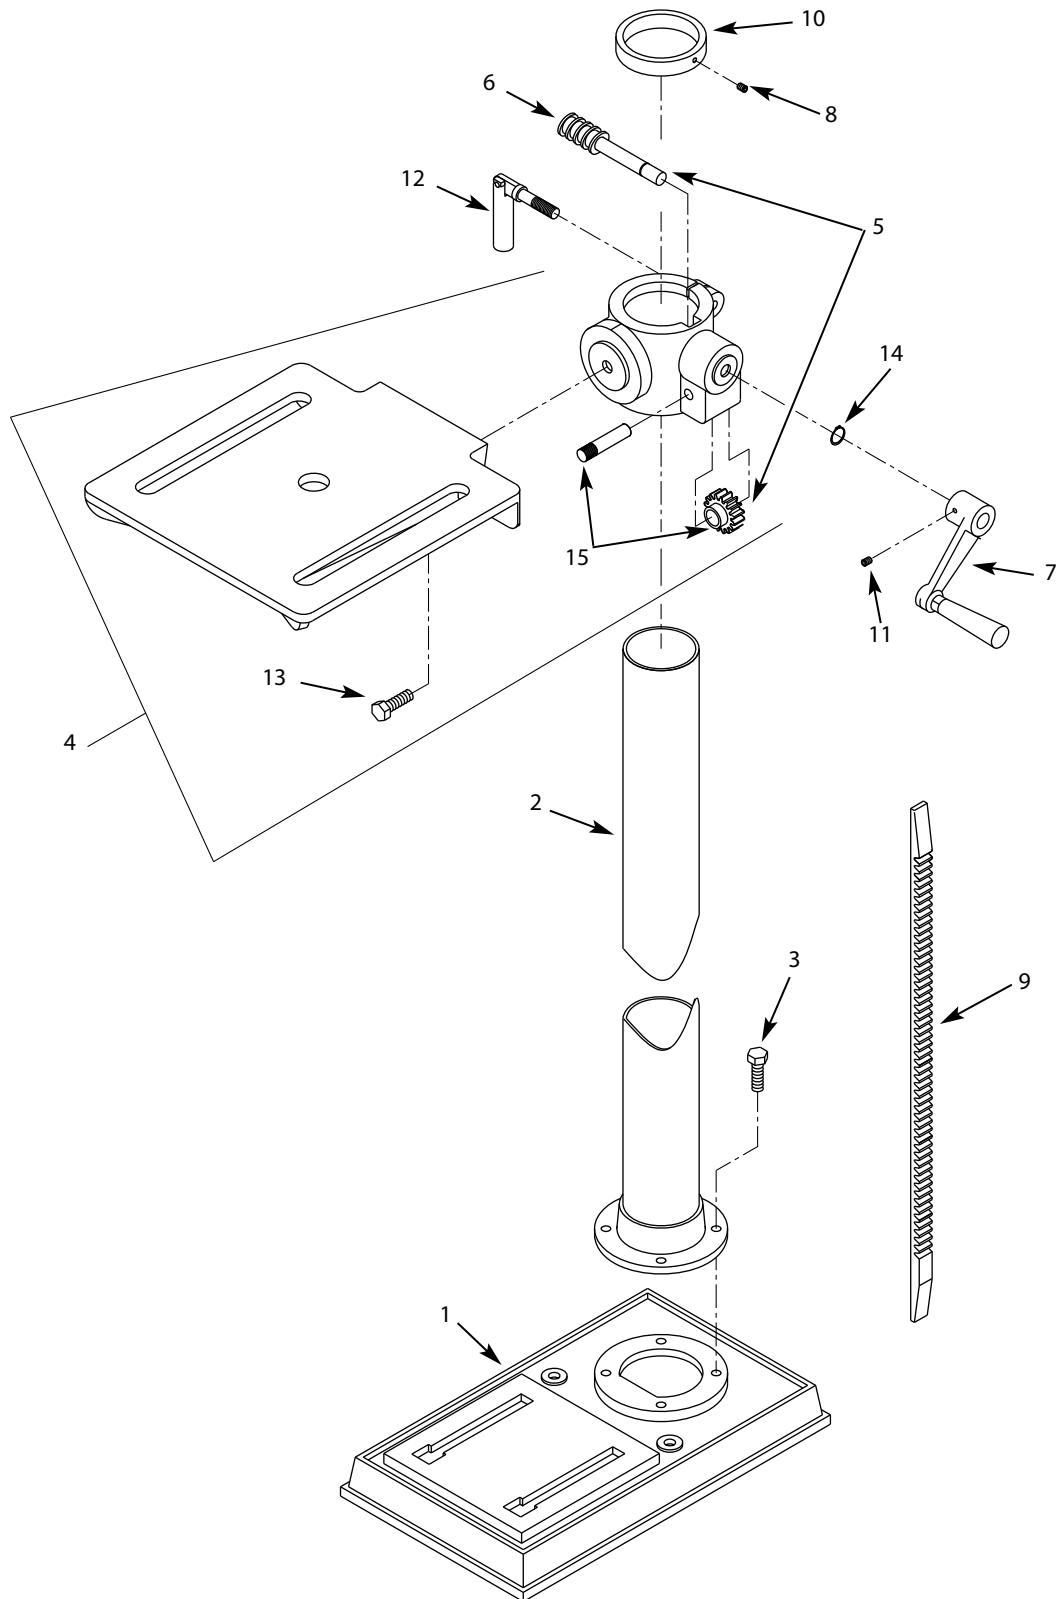

Figure 6 - Replacement Parts Illustration for Base
Refer to Figure 6.
Refer to Figures 6 and 7.
- Apply lubricant to rack and pinion gear (Figure 6, Ref. Nos. 9 and 15) on column and table assembly.